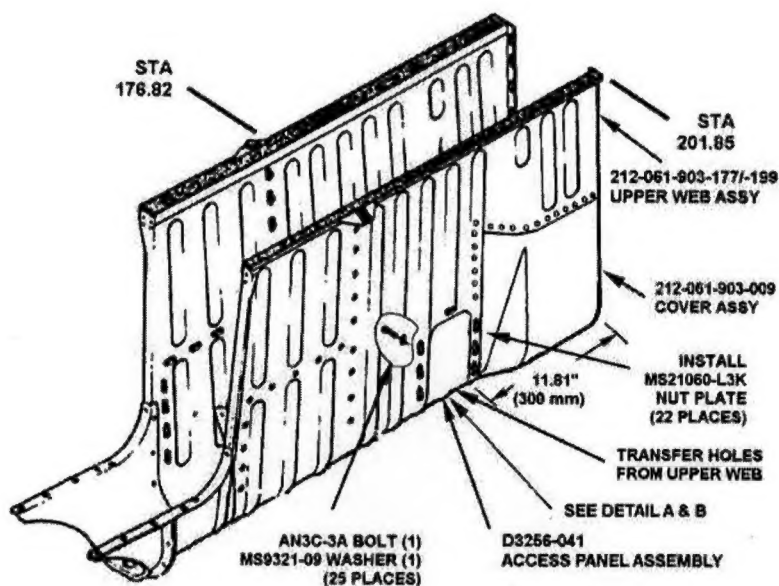

Figure 1
- 1) Remove P/N 212-061-903-177/-199 Drive Shaft Tunnel (Centerline Firewall) I.A.W. BHT-212 (412)-MM.
- 2) Position D3256-041 Access Panel Assembly inside Drive Shaft Tunnel as shown in Figure 1, with Tang facing aft in the bottom of the tunnel, ensuring that the panel follows the contours of the tunnel. The Aft edge of the untrimmed D3256-041 Access Panel should be 10.5" (266 mm) from the Aft end of the Drive Shaft Tunnel, or 9.88" (251 mm) from the Tang to the Aft edge. Mark the Drive Shaft Tunnel with the outline of the untrimmed Access Panel.
- 7) Cut out two rectangular sections of the P/N 212-061-903-177/-199 Drive Shaft Tunnel, as shown in Figure 1, Detail A. **Note: No part of P/N 212-061-903-009 Cover Assembly is Cut.** Leave the center bottom section of the P/N 212-061-903-177/-199 Tunnel as shown in Detail A. Ensure cut out will leave a minimum edge distance of 0.30" (7.6 mm) from center of each hole to cut edge. Deburr the cut out. Dimple remaining rivet holes not used in step 5. Install MS20427M3 rivets where center bottom section of the P/N 212-061-903-177/-199 Tunnel attaches to the P/N 212-061-903-009 Cover Assembly.
- 8) Upsize the holes used for step 5 to $\varnothing 0.204"$ ($\varnothing 5.18$ mm) on Access Panel and P/N 212-061-903-009 Cover Assembly for clearance size on AN3 bolts. Install MS21060-L3K nut plates (22 places) using MS20427M3-3 rivets (use #40 drill 44 places) as shown in Figure 1.
- 10) Re-install modified Drive Shaft Tunnel I.A.W. B.H.T.-212 (412)-MM